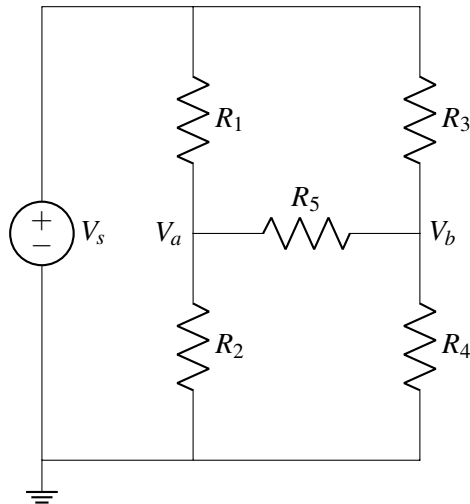

Figure 1: Circuit consisting of a voltage source  $V_s$  and five resistors  $R_1$  to  $R_5$
- Redraw the circuit diagram shown in Figure 1 by adding a voltmeter (letter  $V$  in a circle and plus and minus signs indicating direction) to measure voltage  $V_{ab}$  from node  $V_a$  (positive) to node  $V_b$  (negative). Calculate the value of  $V_{ab}$ . You may use a numerical tool such as IPython to solve the final system of linear equations.
- Redraw the circuit diagram shown in Figure 1 by adding an ammeter (letter  $A$  in a circle and plus and minus signs indicating direction) in series with resistor  $R_5$ . This will measure the current  $I_{R_5}$  through  $R_5$ . Calculate the value of  $I_{R_5}$ .